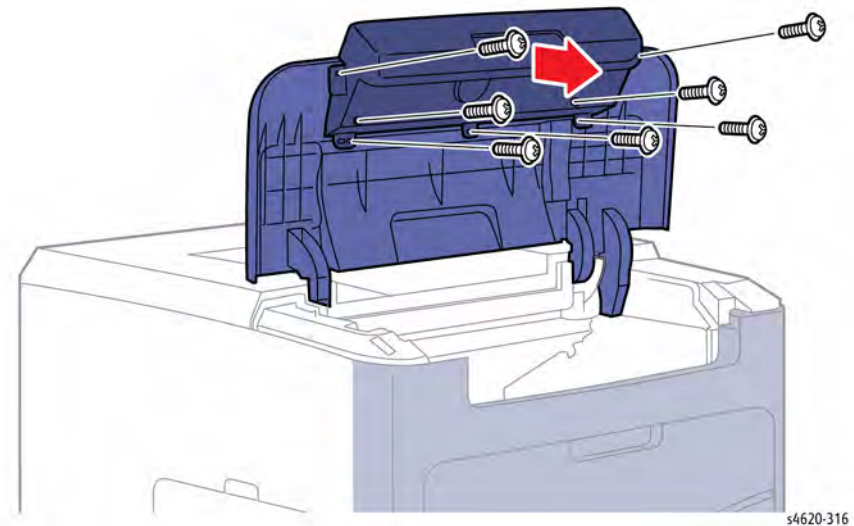

Figure 1 Remove the Control Panel Assembly lower cover
2. Remove 7 screws (plastic) that secure the lower cover to the Control Panel Assembly, Figure 1.